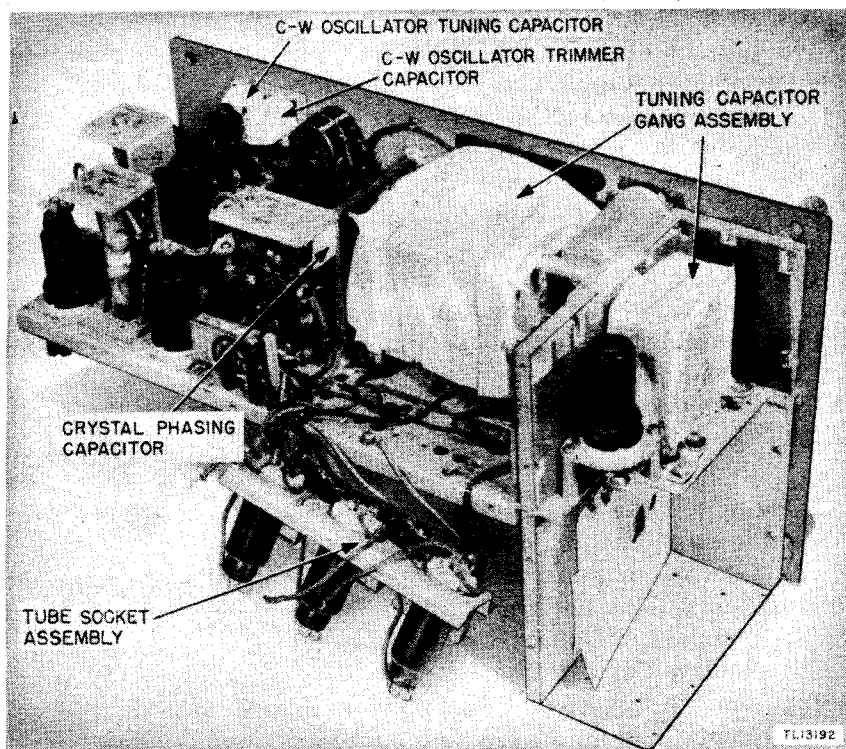

Figure 14. Up rear view of receiver chassis masked for moistureproofing and fungiproofing.
(3) Remove the first r-f, second r-f, detector alignment screw shields, and the r-f wiring, first detector transformer, first i-f transformer, second i-f transformer, c-w oscillator, and r-f oscillator shields.
(4) Disengage the r-f tube socket assembly from the chassis and allow the assembly to hang freely on wiring. (See fig. 14.)
- (5) Remove the power plug shield.
- (6) Set BAND-CHANGE switch to band A, loosen setscrew, and remove the knob.
- (7) Remove setscrew in drive gear of band switching assembly and pull out shaft which interconnects switch sections.
- (8) Unsolder the 20 leads interconnecting the first r-f, second r-f, and first detector sections. Tag each lead so that it can be replaced properly.
- (9) Remove the first r-f, second r-f, and first detector sections and remove the cover plates from each section.
- (10) Unsolder the four leads from the r-f oscillator section and tag each lead respectively.
- (11) Remove the r-f oscillator section and remove the cover plate.
c. DISASSEMBLY OF RADIO RECEIVERS BC-342-(*) AND BC-344-(*). (1) Loosen the panel locks holding the receiver chassis to case, and remove chassis.
e. MASKING. Cover the following components with masking tape as shown in figures 14, 15, and 16.
(1) C-w oscillator tuning and c-w oscillator trimmer capacitors. (See fig. 14.)
(2) Crystal phasing capacitor. (See fig. 14.)
(3) Tuning capacitor gang assembly. (See fig. 14.)